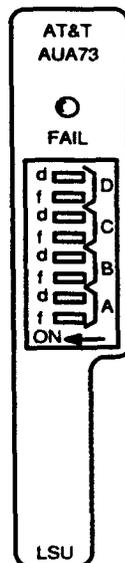

Figure 2—Line Switch Unit Faceplate Switches
4. On LSU, set the f switch to ON position (left) for digroup (A, B, C, or D) to be tested (FIG. 2).